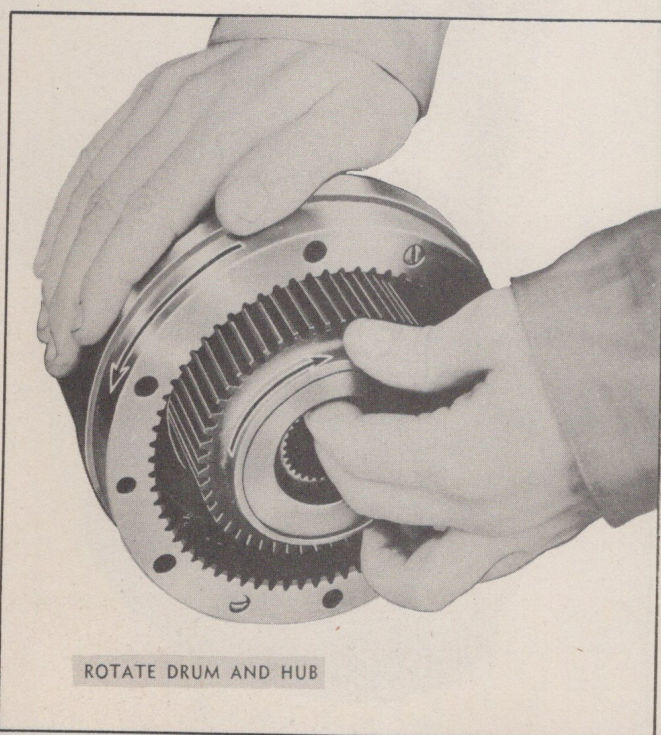

Fig. 252—Installing Rear Clutch Hub
14. Install rear hub and thrust washer into clutch drive plates. Rotate hub and drum on bench to mesh splines with teeth of plates (Fig. 252). When properly installed, hub should be flush or slightly below counterbore in drum.